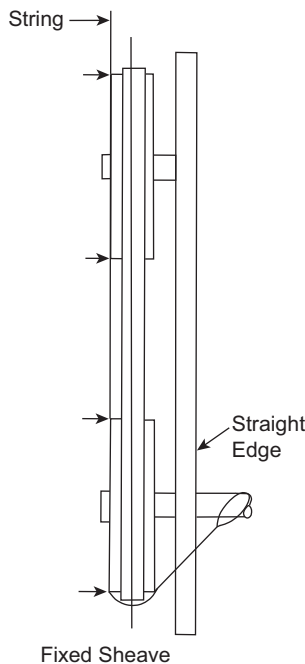

Fig. 37 — Sheave Alignment
1. To check the location of the fixed sheaves on the shafts, use a straightedge or a piece of string. If the sheaves are properly aligned, the string will touch them at the points indicated by the arrows in Fig. 37. Rotate each sheave a half revolution to determine whether the sheave is wobbly or the drive shaft is bent. Correct any misalignment.